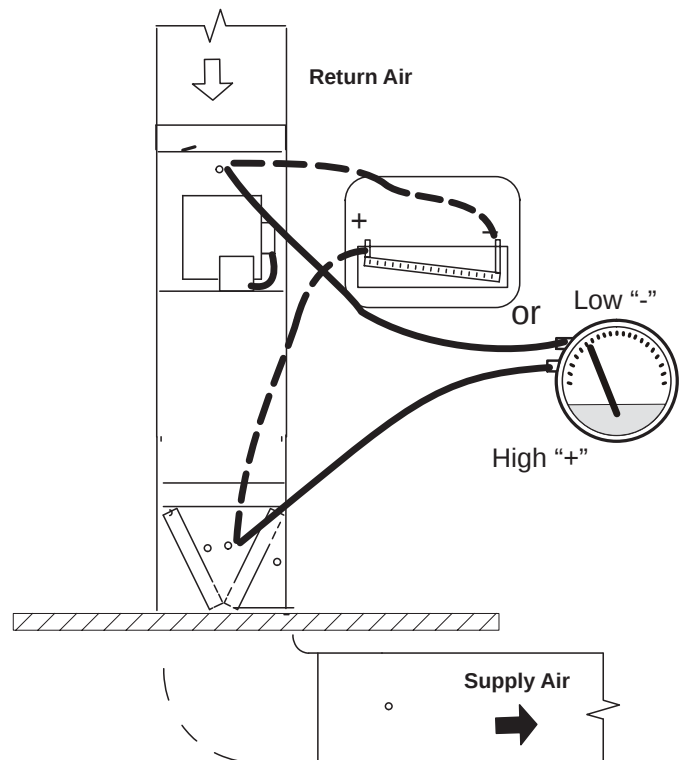

Figure 20.
- 1 - Tap locations shown in **Figure 20**.